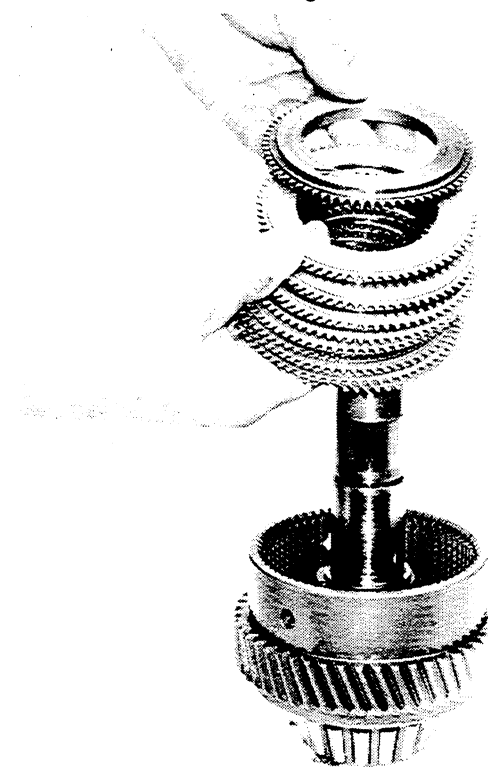

Figure 8-6. *Removing or Installing Clutch Plates and Back Plate on Reverse Housing Gear.*
8. Remove back plate (Figure 12-3, 8), faced clutch plates (7), and steel clutch plates (6). See Figure 8-6.
6. Install the back plate (8). See Figure 8-6.